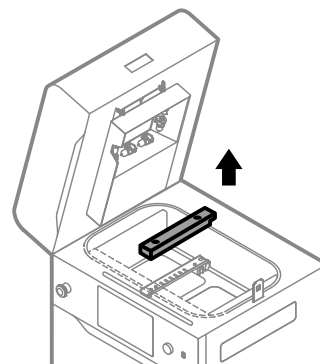

Fig. 12.56 Remove the black Recoater cover.
8. Gently remove the black cover from Recoater (fig. 12.56).